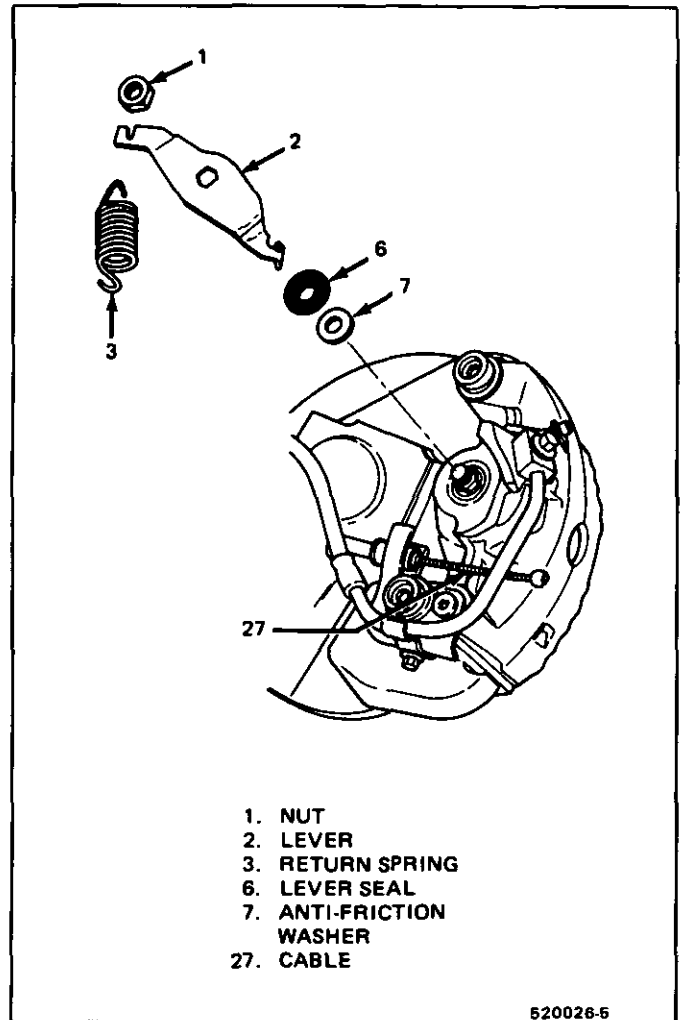

Fig. 2 Parking Brake Lever Attachment
- Any contamination from caliper surface in area of lever seal (6) as shown in Figure 2.
5. Anti-friction washer (7) and lever seal (6) as shown in Figure 2. (Seat lever seal (6) against caliper housing).
6. Lever (2) on actuator screw hex with lever pointing as shown in Figure 2.
7. Nut (1) while holding lever (2).